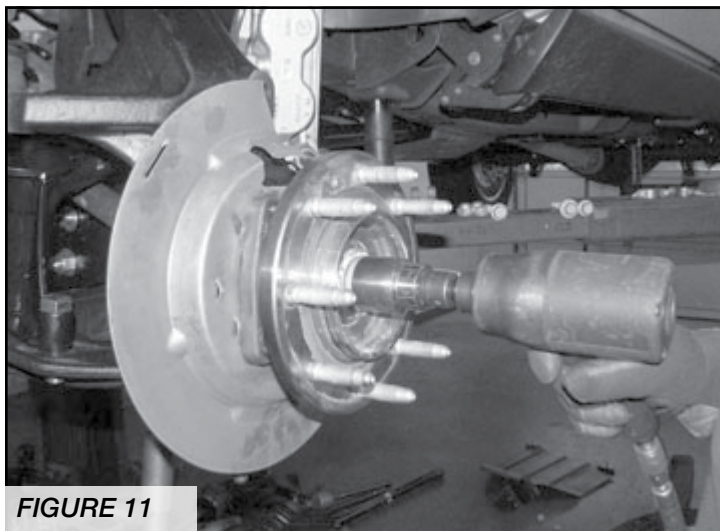

FIGURE 11
18. Install the axle nut and torque to 165 ft-lbs. Replace axle nut cover. **SEE FIGURE 11**